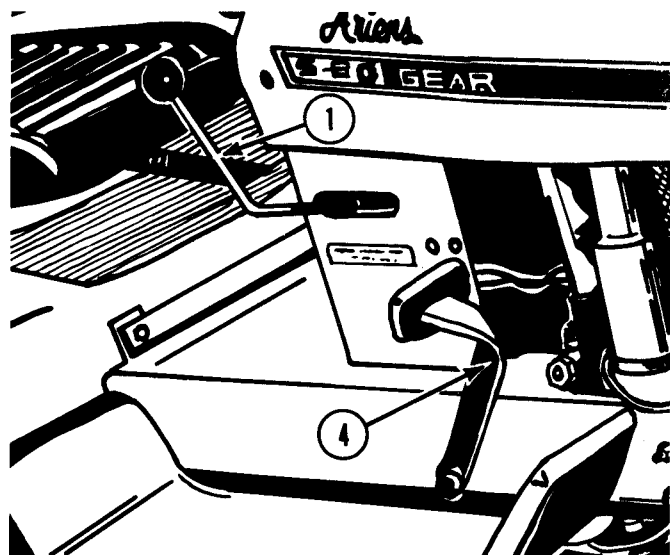

Figure 1
① IMPLEMENT POWER CLUTCH — Figure 1
(Hydrostatic Models) — Figure 1